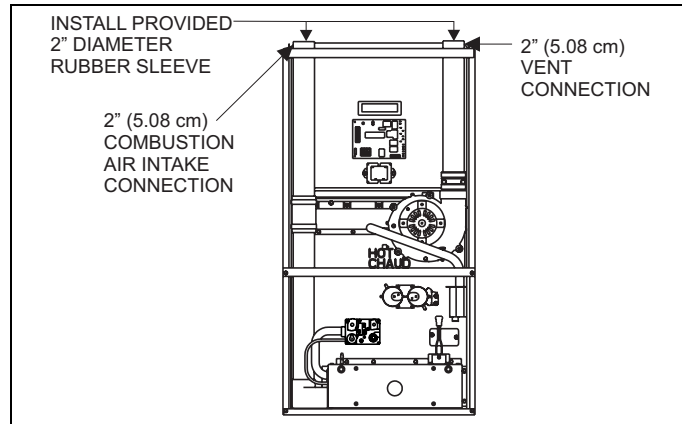

FIGURE 21: Sealed Combustion Air Intake Connection and Vent Connection
1. **OUTDOOR COMBUSTION AIR:** This is a sealed combustion air configuration where the combustion air is supplied through a PVC or ABS pipe that is connected to the PVC coupling attached to the burner box and is terminated in the same atmospheric zone as the vent. This type of installation is approved on all models. Refer to Figures 21 & 23.
This installation requires combustion air to be brought in from outdoors. This requires a properly sized pipe (Shown in Figure 21) that will bring air in from the outdoors to the furnace combustion air intake collar on the burner box. The second pipe is the furnace vent pipe.